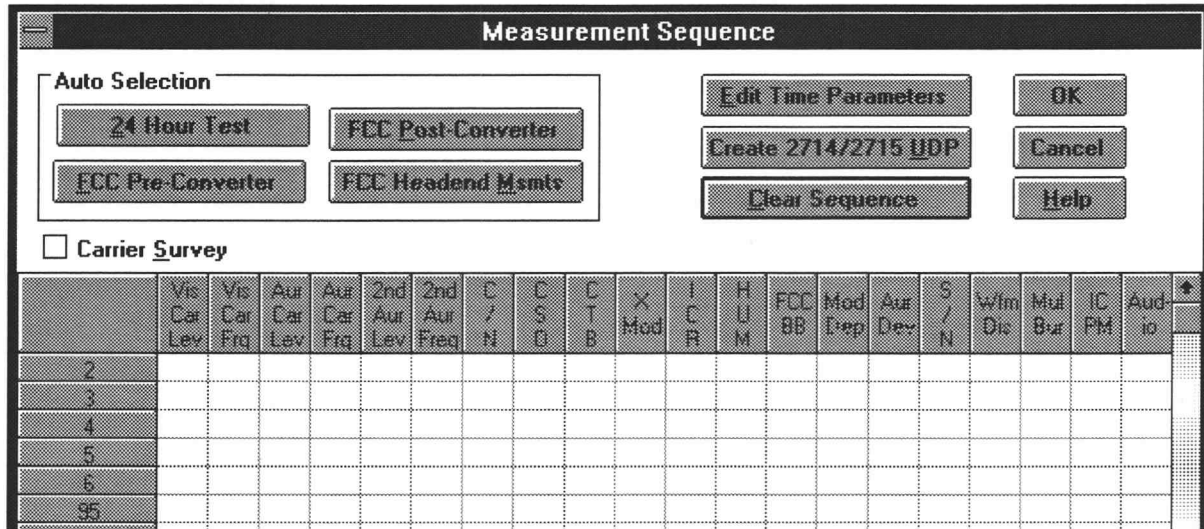
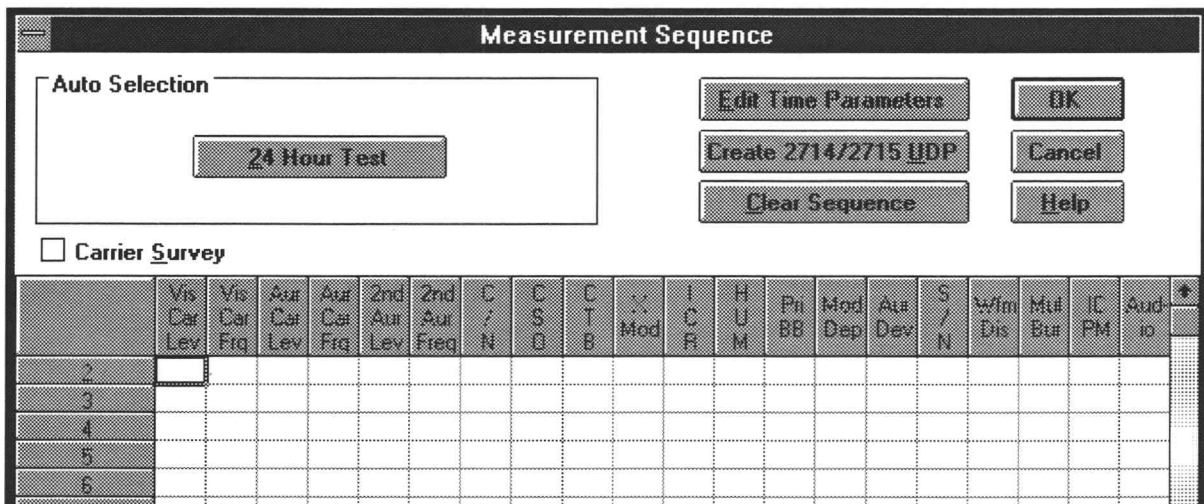

Figure 4-24. The Measurement Sequence dialog box. ²
Figure 4-25. The Measurement Sequence Dialog box if the operating country is not the United States.
2. From the Configure menu, choose Measurement Sequence. The Measurement Sequence dialog box (Figure 4-24 or Figure 4-25) appears: